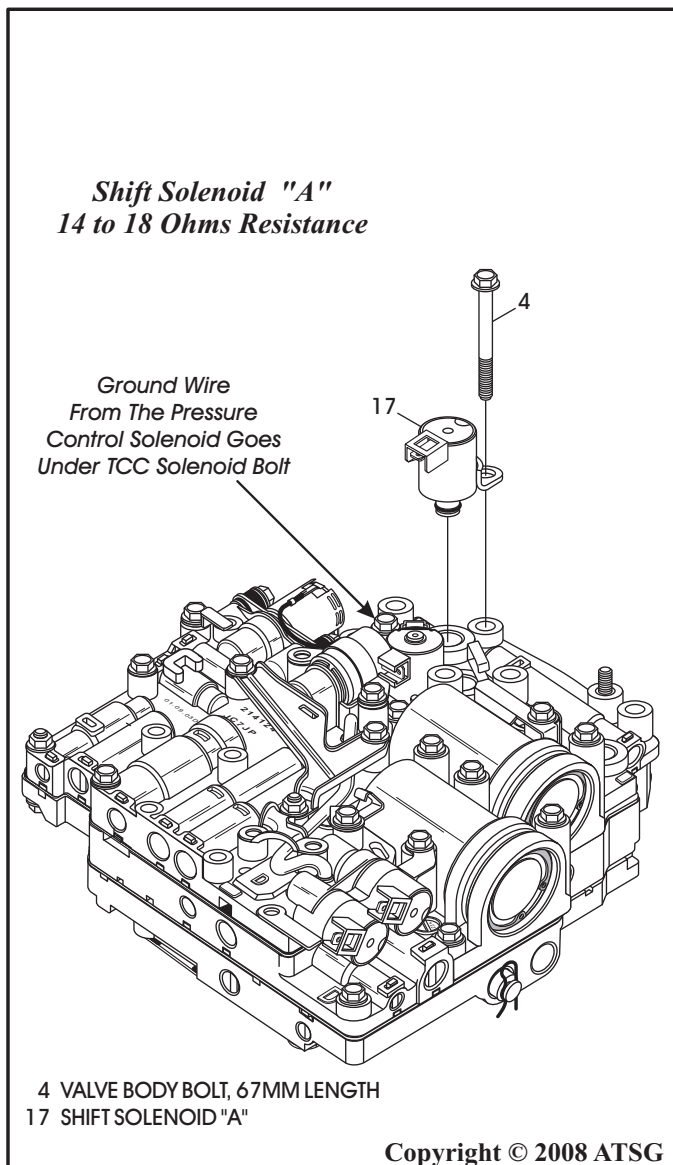

Figure 114
65. Install new "O" ring, lube with ATF, and install shift solenoid "A" into valve body, as shown in Figure 114.